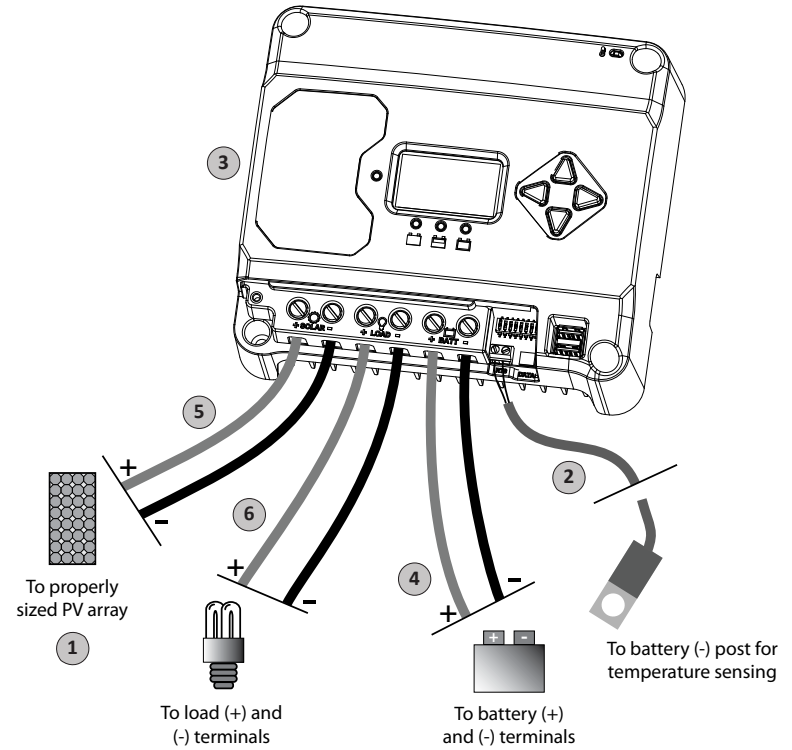

Figure 3-3. Wiring the EcoBoost MPPT
**REFER TO FIGURE 3.3 WHEN USING THE WIRING INSTRUCTIONS BELOW.**
Connect the (+) and (-) RTS wires to the 2-position terminal located below the DIP switches (see figure 3.3).